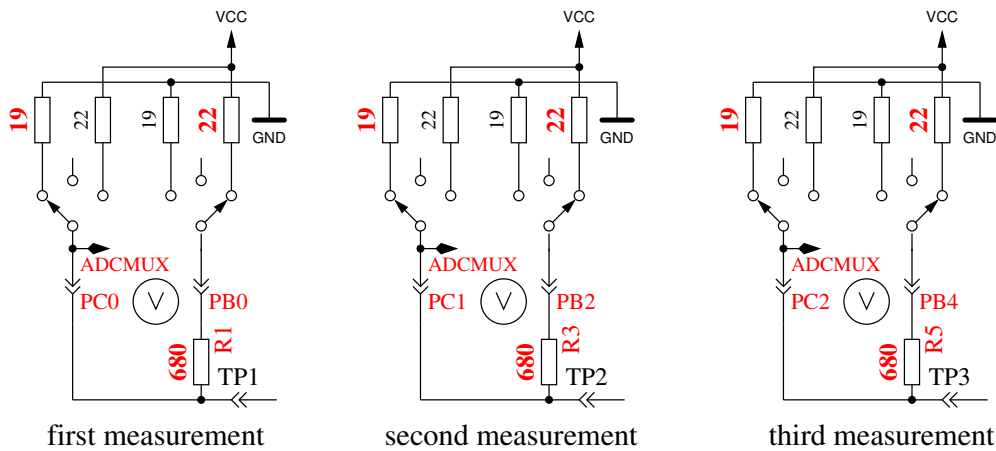

Figure 4.26: Measurement of internal resistance of Port C switched to GND
5. **This step tests the capability of GND (-) connected 470kΩ resistors (H) to pull the test pins to GND.** Row 1 shows the text “RH-”. Row 2 should display zero for all three pins.
6. **This step tests the capability of VCC (+) connected 470kΩ resistors (H) to pull the test pins to VCC (+).** Row 1 shows the text “RH+”. The best value for this three measurements is 5001. Great differences from the best value for test 5 and 6 are errors such as isolation problem, flux material or damaged port.
7. **Measuring of internal resistance of pin output switched to the GND signal.** The text in the 1st LCD row is “Ri.Lo = (mV)”. In the second row of the LCD three voltages were displayed. The internal resistance of the port C outputs switched to GND (-) are measured with the current of to VCC (+) switched 680Ω resistors, see Figure 4.26. Only the three pins of the ADC port are measured, the resistor port B (PB0, PB2 and PB4) can not be measured without hardware modification. It is assumed that the port resistance of the different ports are nearly identical. To get the resistor values, you must divide the displayed mV values by about 7 (see test 8).